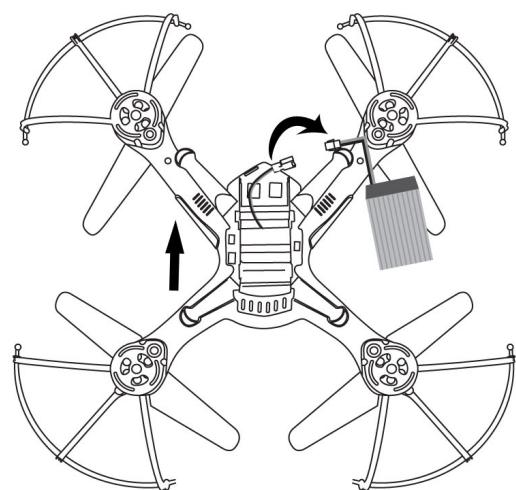

Fig 2
2. Connect the Connection Plug from the Battery to the Battery Connection Jack from the unit as the Fig 2 below.